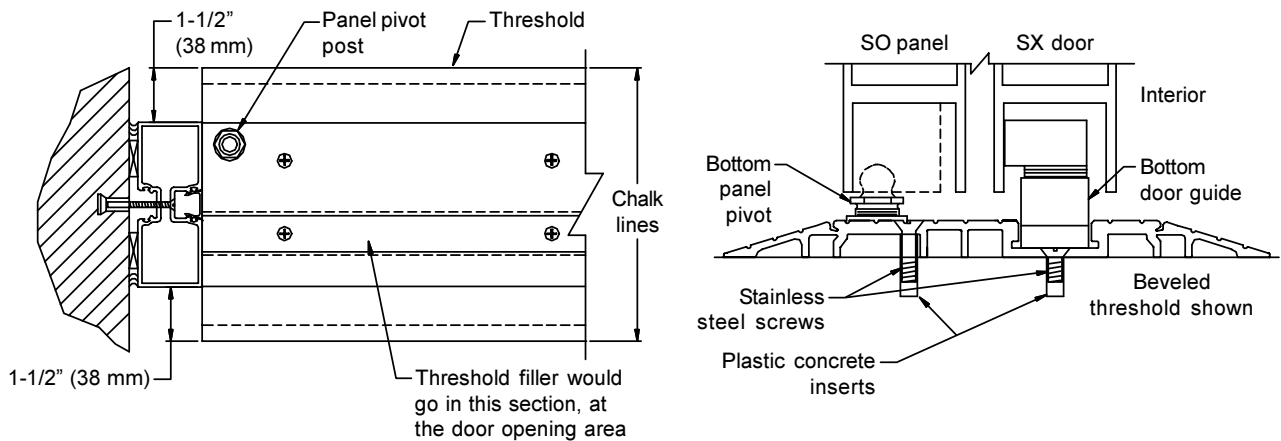

Figure 10. Installation of Threshold
2. Verify that the panel pivot in the threshold is on the EXTERIOR side of the opening. Keep the threshold within the chalk lines, and use it as a guide to drill through holes into the floor. Slide the filler extrusion to the right side when drilling the left side and then repeat for the right side. Place plastic concrete inserts into the drilled holes. Use the stainless steel screws from the blister pack to fasten the threshold to the floor (**Figure 10**).